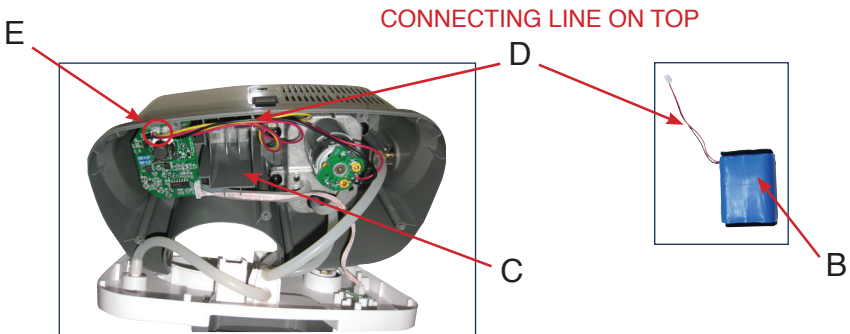

Figure 3
- 3) Place the battery (B) into the battery case (C), figure 3. The side of the battery with the battery connecting line (D) should be at the top. Insert the battery connecting line (D) into the “BT” (E) outlet on the PCB board. Figure 3.